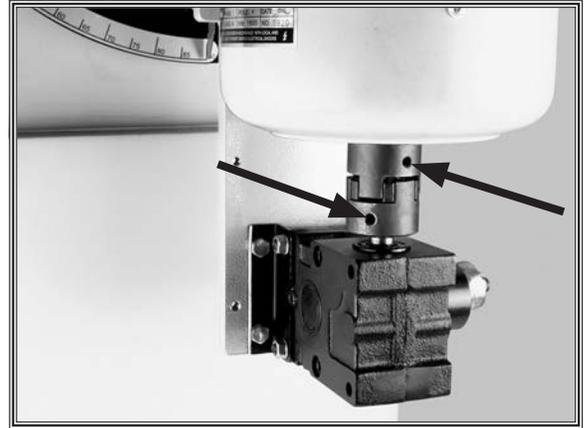

Figure 30. Location of spindle connector set screws.
The spindle connector connects the shafts from the motor to the gearbox and is secured by two set screws (see **Figure 30**) that need to be tightened every time the gearbox oil is filled (every 500 hours).
2. Tighten set screws shown in **Figure 30**.